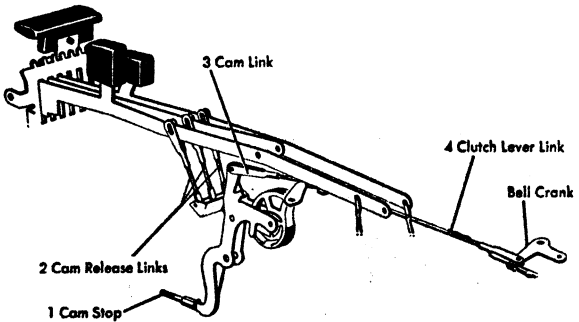

Figure 1. Cam Release Link Adjustments
2. **THE CAM RELEASE LINKS** should be adjusted in the following manner (Figure 1).
3. **THE CAM LINK** to the clutch lever should be adjusted to just span the distance between the cam at rest against its stop and the clutch lever at rest against the roller (Figure 1).
4. **ADJUST THE CLUTCH LEVER LINK** so that the rear edge of the right arm on the bell crank will be parallel to the rear rail (Figure 1).